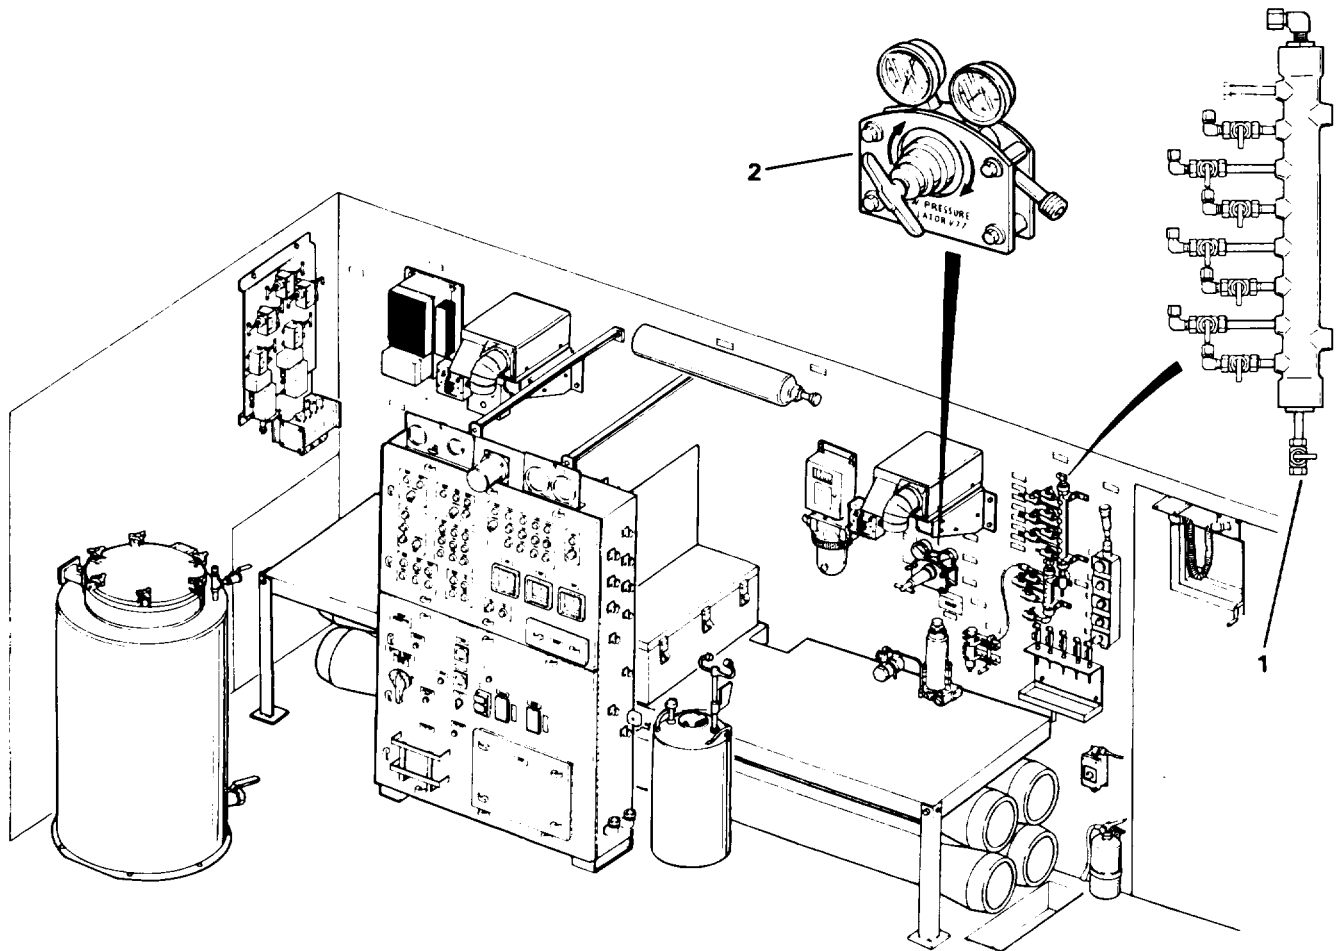

Figure 4-88. Air Compressor Inspection
(1) Refer to Figure 4-88 and drain down system air pressure at the air manifold drain valve(1) while observing the system air pressure gage (2). The air compressor should turn on at approximately 1500 to 1550 psig (10340 to 10685 kPa). Then, close drain valve(1).
(2) Continue to watch the air pressure gages. The compressor should continue to operate until system air pressure is between 1750 and 1800 psig (12063 to 12110 kPa).
(3) Notify direct support if the air pressure at which the air compressor actuates is too high or too low.